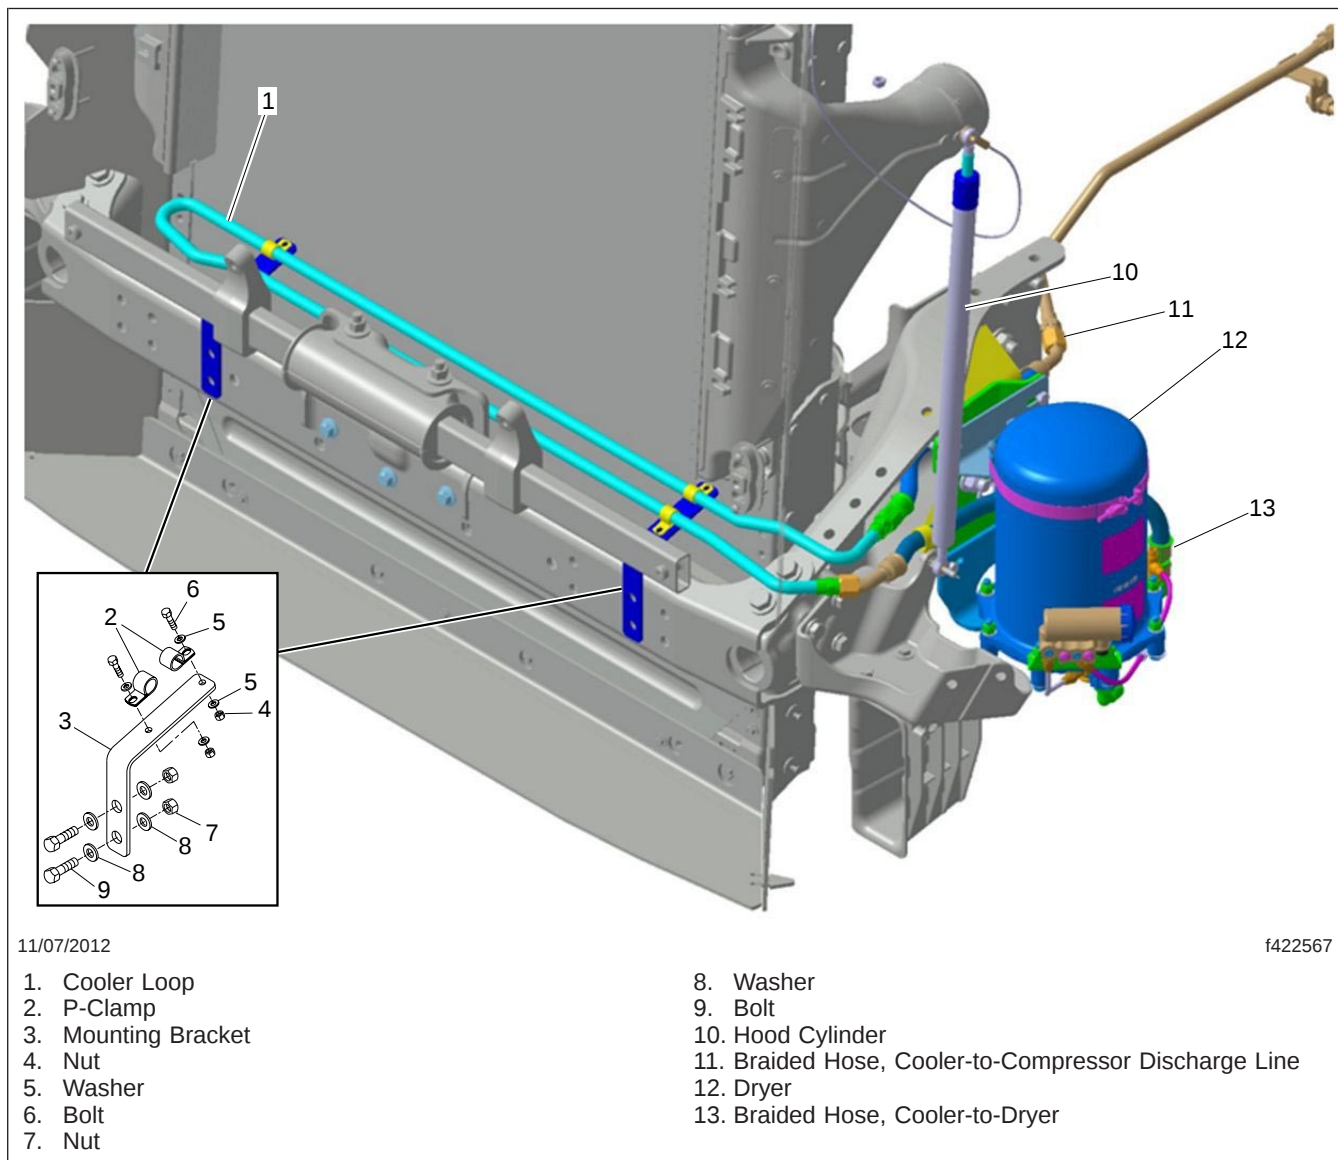

Fig. 1, Cooler Loop Installation (AD-9/AD-IP dryer shown)
Refer to Fig. 1 for this procedure.
9. Install the cooler-loop mounting brackets. See Fig. 1.
10. Position the P-clamps on the cooler loop and install the cooler loop on the brackets. Do not tighten the P-clamp fasteners at this time. See Fig. 1.
16. Tighten the cooling loop mounting fasteners. See Fig. 1.